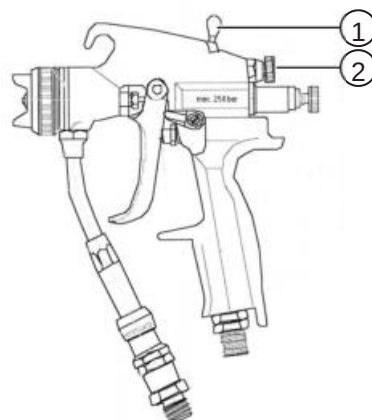

Fig. 25 Regulating the atomizer air
2. Switch off the atomizer air supply on the gun (see Fig. 25).